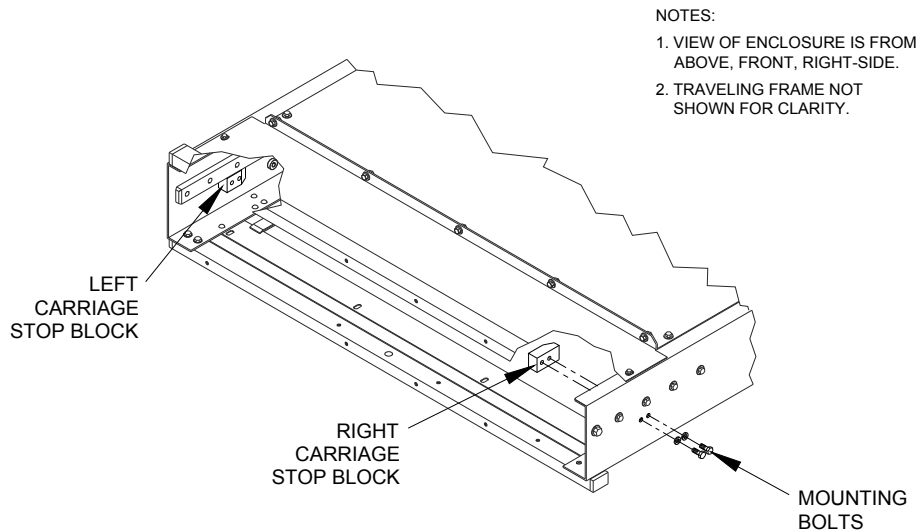

FIGURE 4-35: CARRIAGE STOP BLOCK LOCATIONS
- e. Refer to **Figure 4-35**. The carriage stop block mounting bolts are accessible from under vehicle, or from the front of enclosure. Remove bolts and both stop blocks.